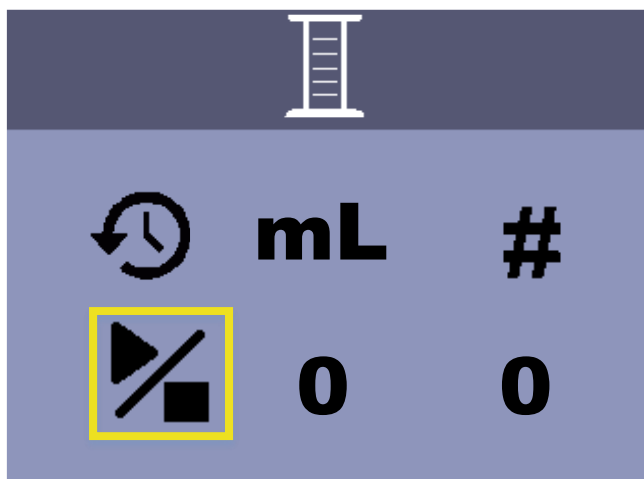

Figure 19: Pump Calibration (Set Flow Rate)
- a. From the Home Screen and the pump stopped, press the **Menu Button** and then the **Right Button** twice to select the **Calibration Icon**. Press the **Enter Button** to enter the Calibration Screen (Figure 19).